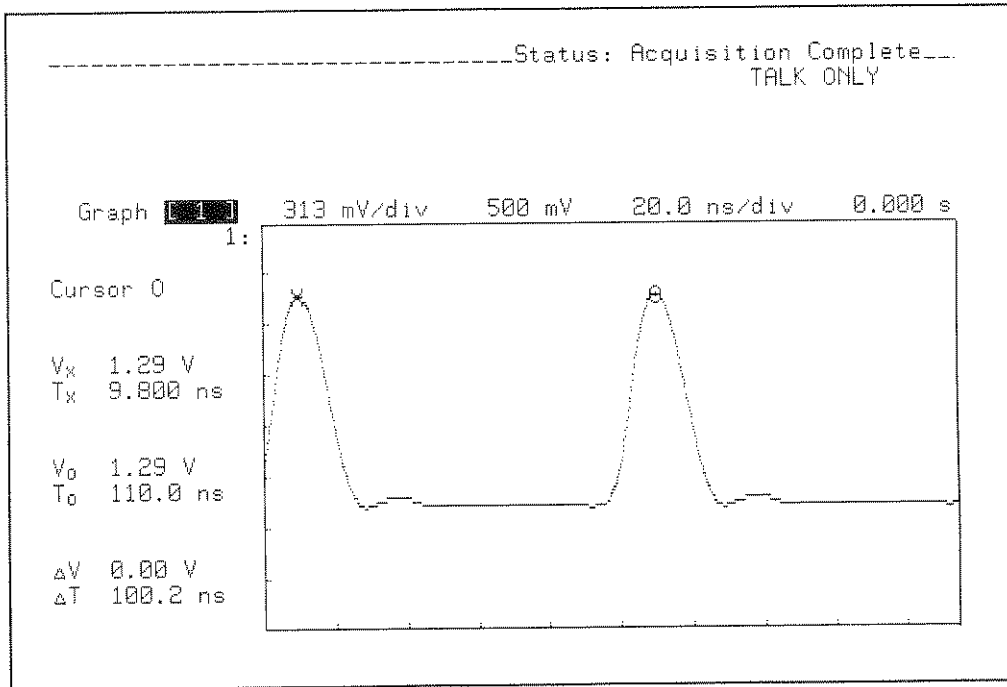

Figure 9-10. DISPLAY Waveform
6. The display should appear similar to figure 9-10.